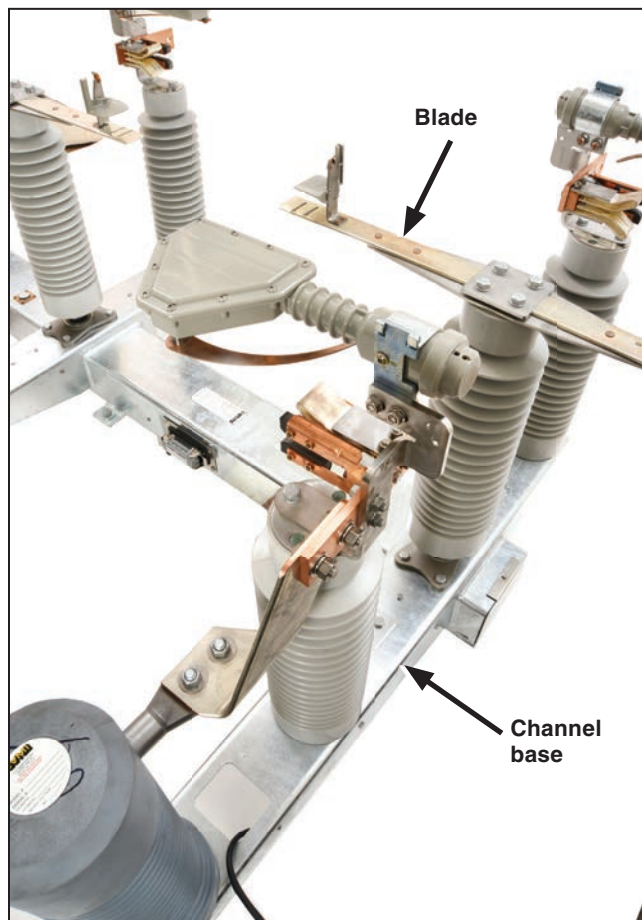

Figure 45. The blade at 90 degrees from the channel-base position.
- (a) With the operating handle as far as it will go in the opening direction, the switch blades are 90 degrees from the **Closed** position (perpendicular to the channel base). See Figure 45.